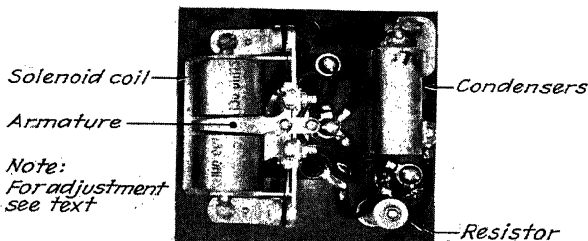

FIG. 70.—Heavy-duty relay assembly.
**Relay** (Figs. 70 and 71).—A relay is required in the control system of each propeller. In reality, the relay is the heavy-duty switching mechanism of the propeller control circuit. Its purpose is to carry the propeller operating current to the pitch change motor during the time that the propeller is operating in *automatic* control. A low amperage current, controlled by the governor contacts, energizes the relay solenoid coils. These energized coils act upon the soft iron armature of the relay which in turn cause the heavy relay points to make or break the propeller circuit.